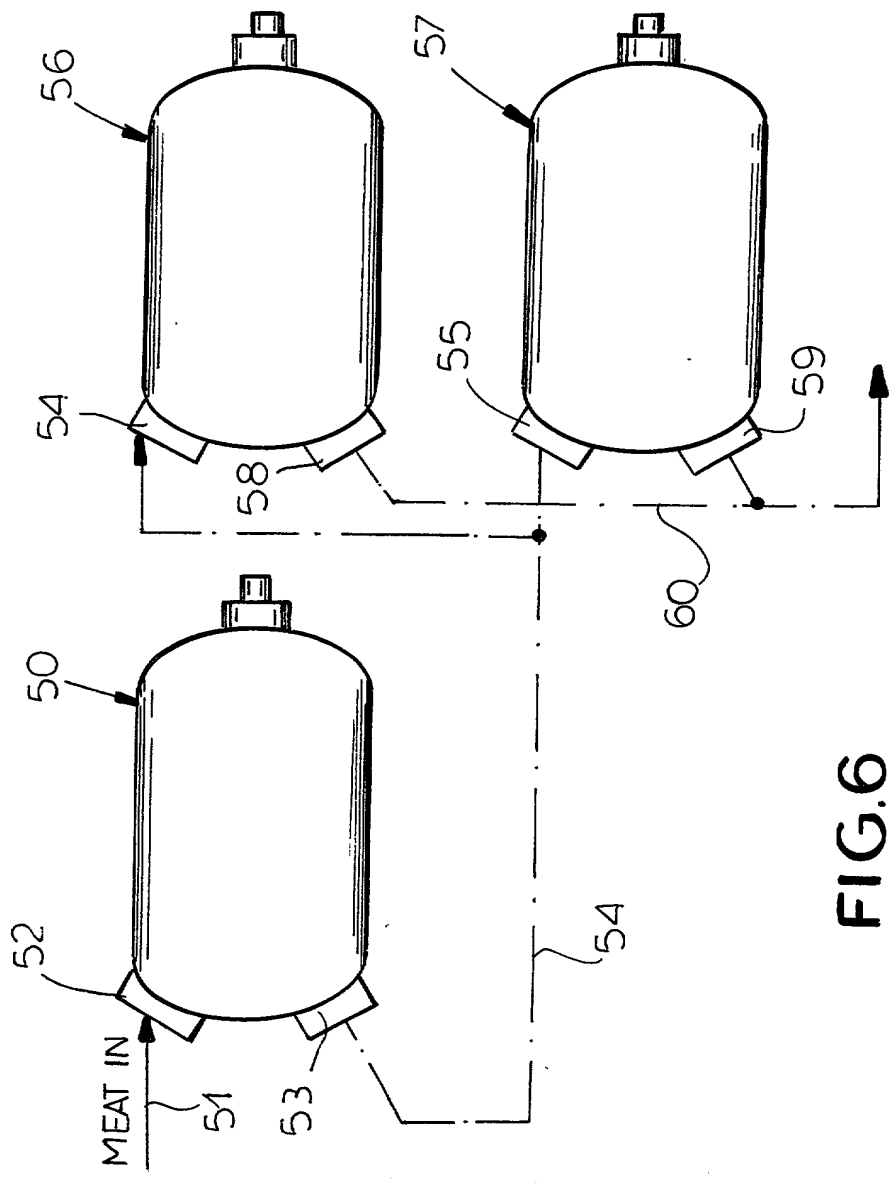

FIG.6
FIG. 6 is a schematic diagram of a meat processing system. The system includes a meat input (51) and a meat output (59). The meat input (51) is connected to a meat processing unit (50) via a meat input line (52). The meat processing unit (50) is connected to a meat output unit (55) via a meat output line (53). The meat output unit (55) is connected to a meat output line (59) via a meat output line (54). The meat output line (59) is connected to a meat output unit (57) via a meat output line (58). The meat output unit (57) is connected to a meat output line (59) via a meat output line (56).